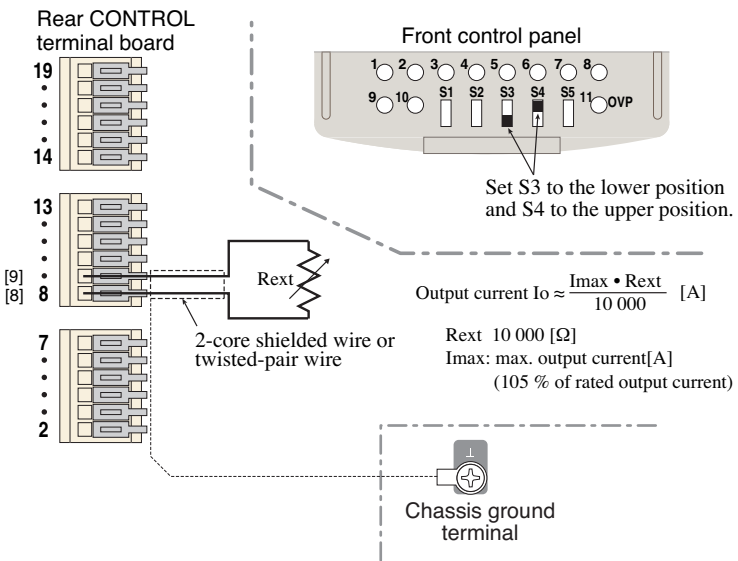

Fig.4-11 Connection and setup for output current control using external resistor
3. Set the control switches S3 and S4 to the position as shown in Fig.4-11.
4. Connect an external resistor across the control terminals [8] and [9] as shown in Fig.4-11.